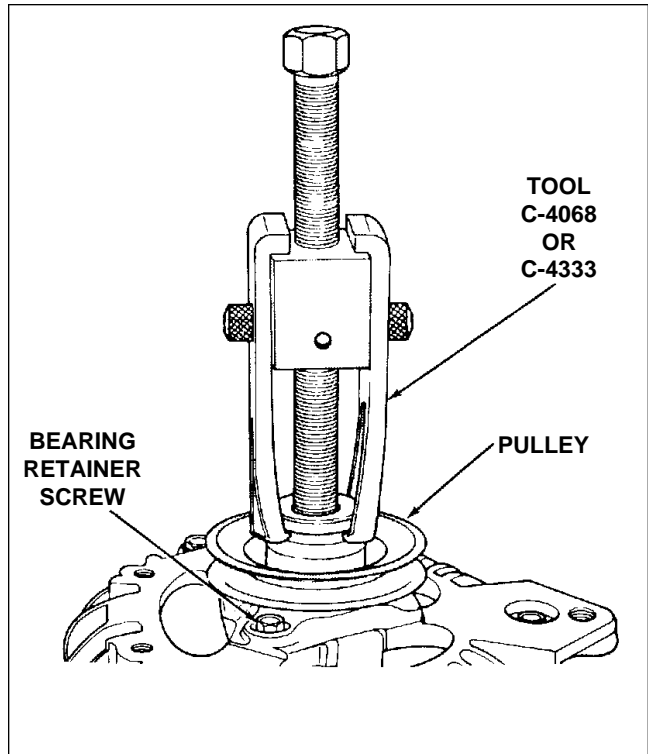

Figure 11-27. Removal of Pulley
- a. Remove pulley with tool C-4068. (Refer to Figure 11-27.)